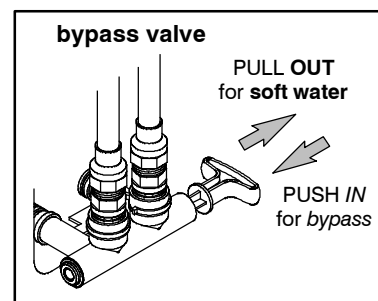

Figure 2
11. Plug in transformer. Pull the bypass valve stem out for soft-water position. **Figure 2.**